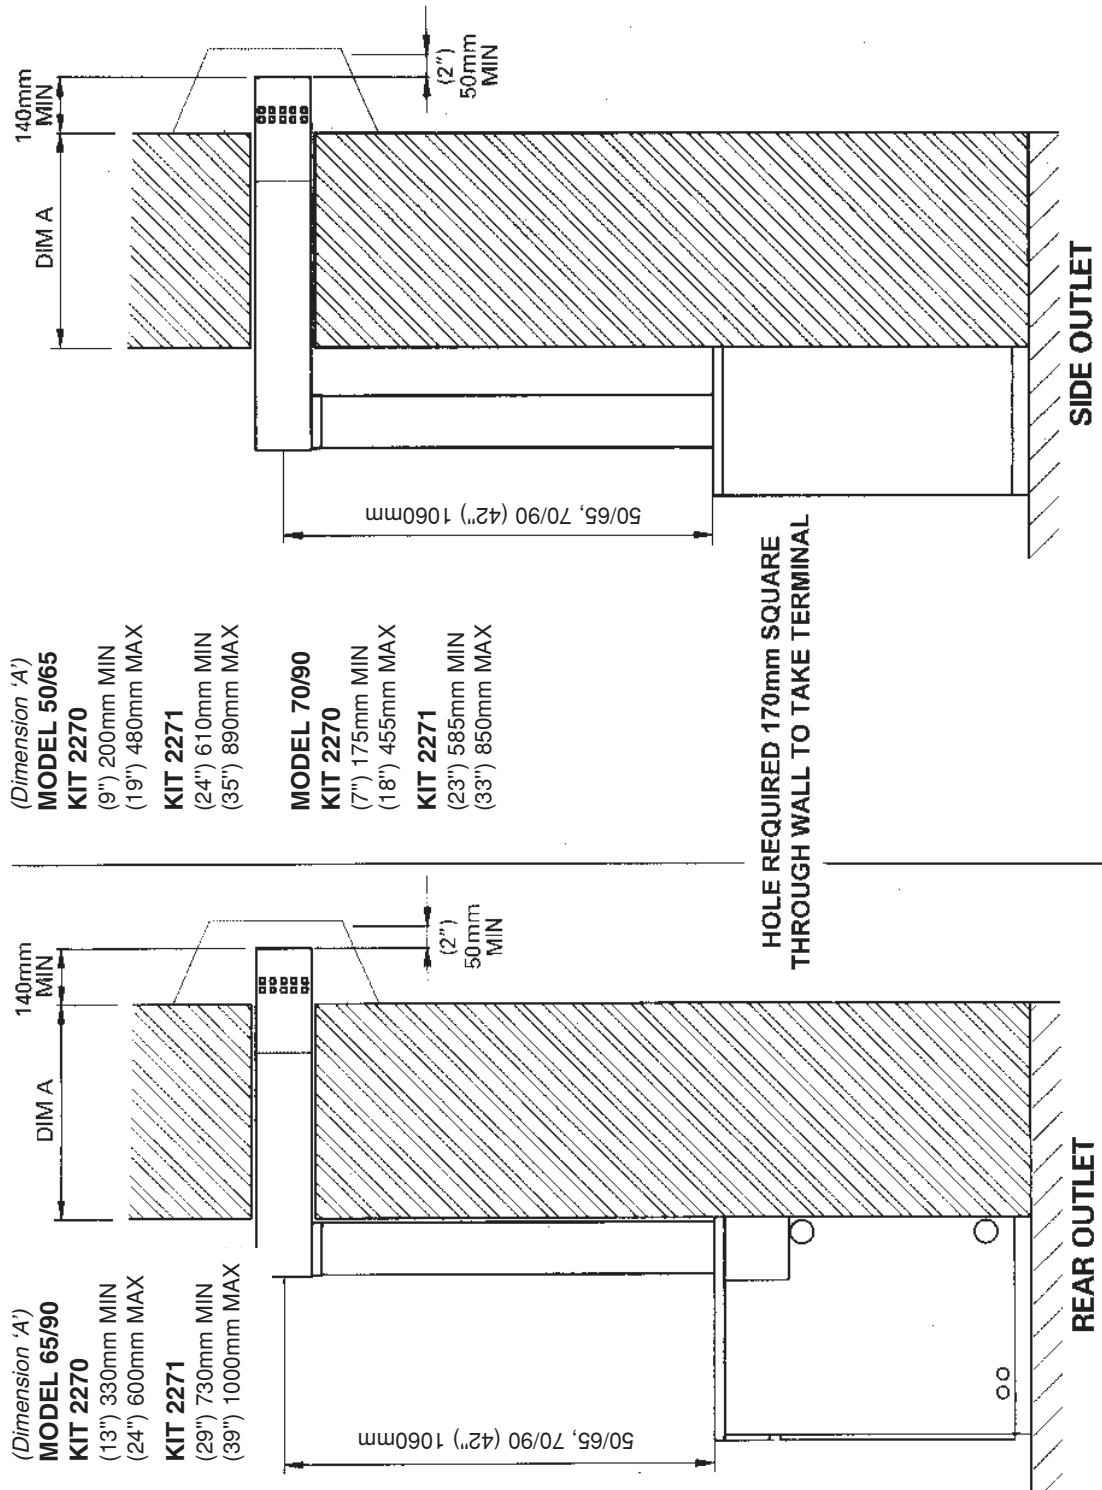

Fig 18
**ASSEMBLY METHOD (Fig 18/19) - High Level Adaptor Kit used with 600mm Horizontal Telescopic BF Kit**
**ASSEMBLY METHOD (Fig 18/19) - High Level Adaptor Kit used with 1000mm Horizontal Telescopic BF Kit**